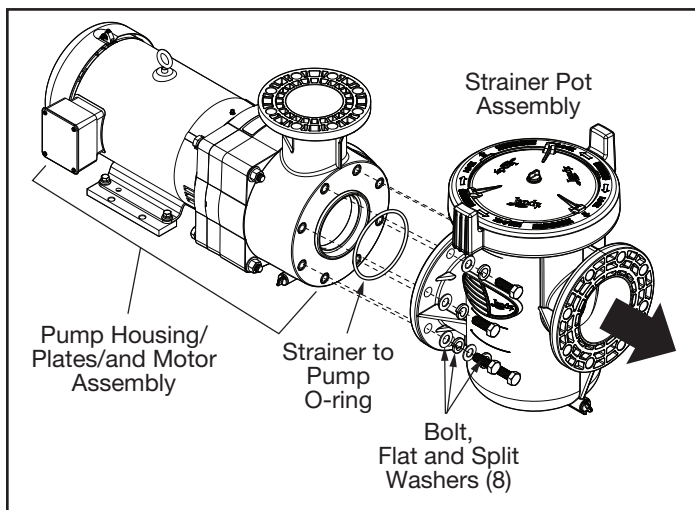

Figure 12. Remove Strainer Pot from Pump Assembly
6. Pull the Strainer Pot assembly forward from the Pump Housing/Plates/Motor assembly, as shown in Figure 12.
7. Remove the Strainer to Pump O-ring on the front of the Pump Housing. See Figure 12.